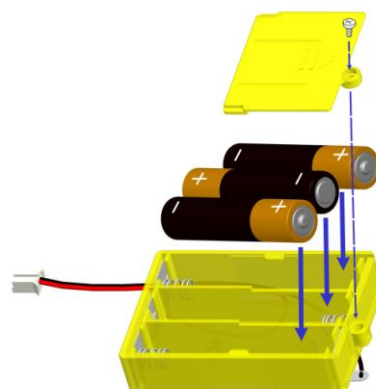

Fig. 10
9. Use a cross head screwdriver (not included) to loosen the screw in the battery compartment door of the battery box (9), install 3 AAA batteries according to the polarity mark. (Fig. 10) Replace the door and